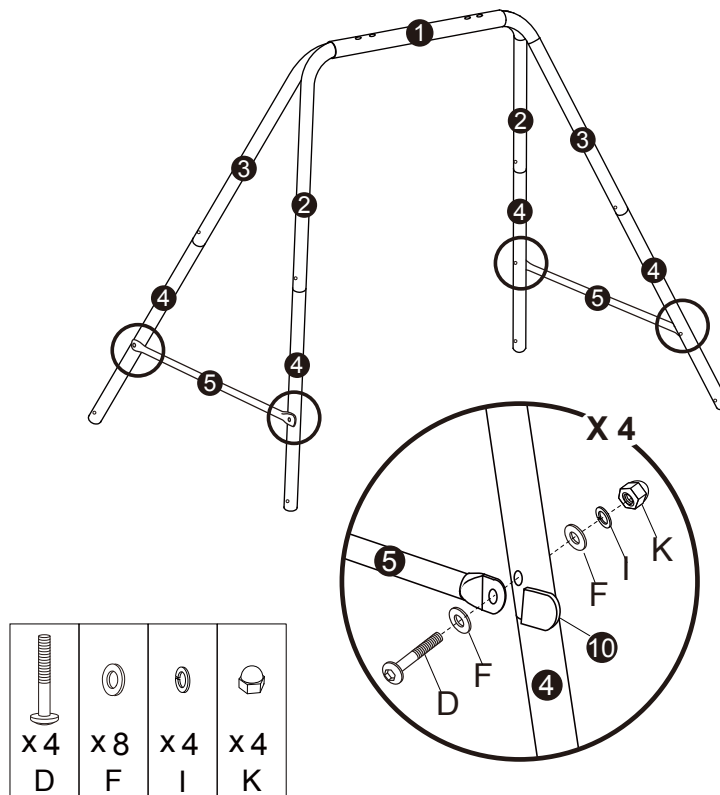

FIGURE 3
- Attach Plastic Cap (10) to each side of Rail (5) Secure Rail to Legs (4) on both sides of the swing using D, F, I and K in the sequence shown in FIGURE 3.